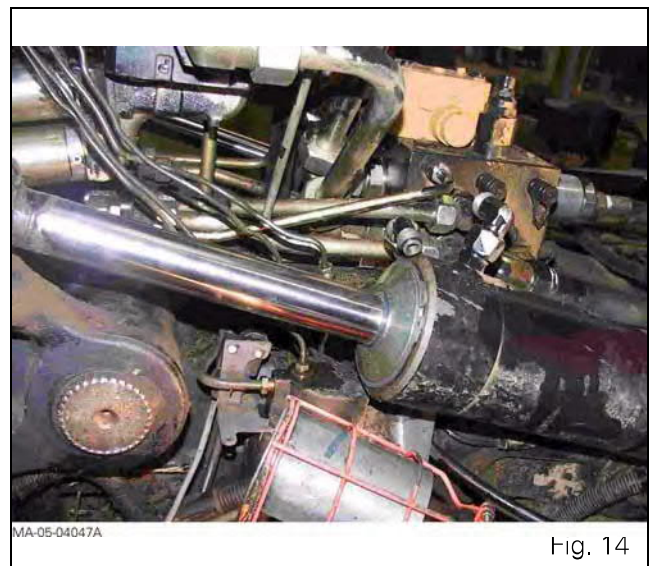

Fig. 14
14. Remove the hydraulic hose pipes from the lift cylinders. (Fig. 14)